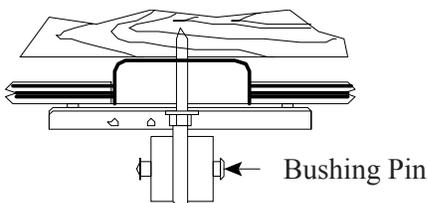

Figure 6
3. Be sure the pin is centered in the rubber bushing. See Figures 6 and 7.